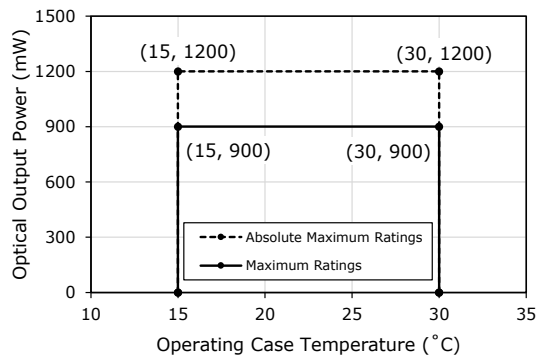

Figure 1. Derating Characteristics
| Optical Output Power ^{1, 2} | P _O | Figure 1 | mW |
² The maximum rating provided in Figure 1 should not be exceeded.
(1) Laser Hazard
(2) Storage
(3) Design Consideration
- This LD is a semiconductor device that has a high current density during operation in the emission layer. Exceeding the Absolute Maximum Ratings may damage the LD. The circuit must be designed to ensure that the Absolute Maximum Ratings (see Absolute Maximum Ratings and Figure 1) are not exceeded even if the LDs are operated only for a short period of time.
- Since the lifetime of the LD will become shorter as the operating current and/or the optical output power become larger, the maximum ratings provided in Figure 1 should not be exceeded.
(4) Handling Precautions